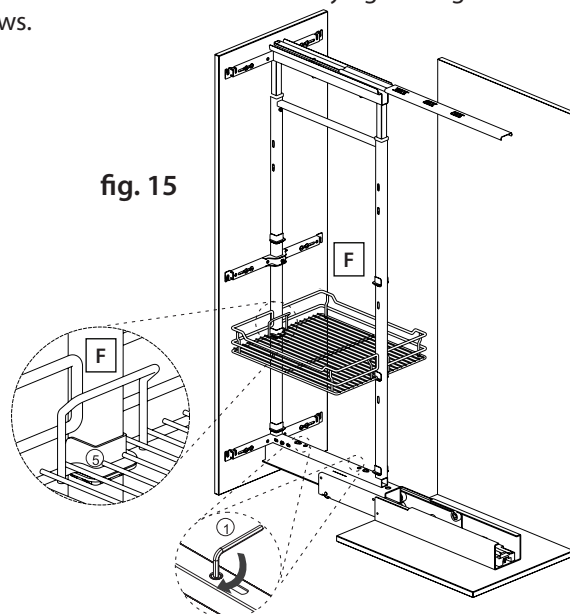

fig. 15
17) The final adjustment is top to bottom and tilt. Refer to figure 15. Loosen the two M6 (#2) screws. Using the 4mm allen wrench (#1), tighten the front screw and loosen the back screw to tilt the top of the door out. If you loosen the front screw and tighten the back screw, the top of the door will tilt in. If you need to adjust the whole door down, tighten both screws the same amount. Finish by tightening the two M6 (#2) screws.